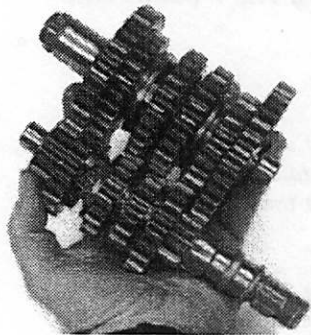

Figure 34
- Tap on the mainshaft (sprocket end) and remove both transmission shafts (Figure 34) from the crankcase. If a gear falls off of a shaft, immediately install it back onto its shaft and facing in its correct position.